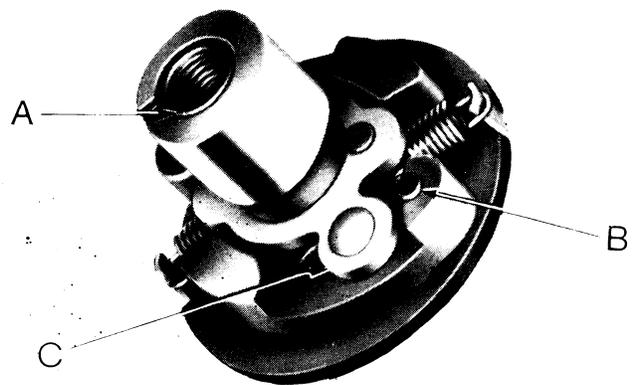

Fig. 30 Auto advance unit used with 6 and 7CA contact breakers
- (iii) Every 6,000 miles (9,600 km). Release the contact breaker base plate by removing the securing screws. Draw the plate clear of the cam giving access to the auto-advance unit. Lubricate the pivot points B and C (Fig. 30) with one drop of engine oil, wiping away any surplus.